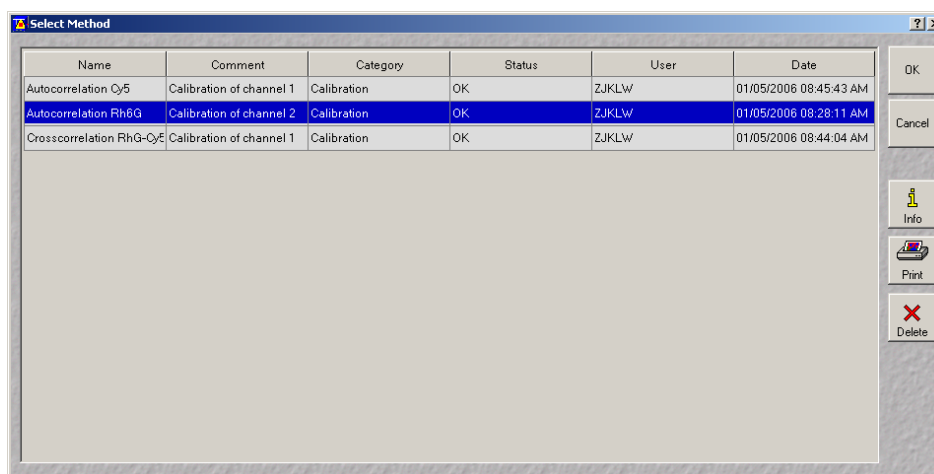

Fig. 4-9 Select Method window
- This opens the **Select Method** window (see Fig. 4-9). The name of the currently selected method will appear in the status bar of the window.